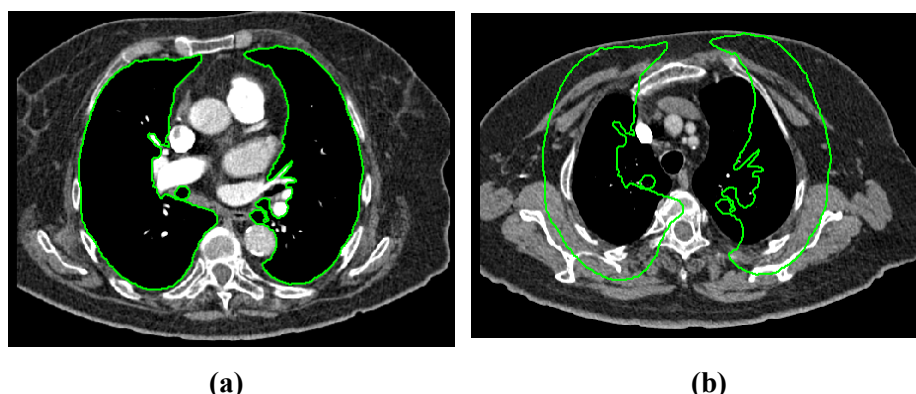

Figure 244 – Contour on the last image (a), Accepted nearest contour from the last image into the 1st image (b)
3. The nearest drawn contour is then automatically copied to the current image (see Figure 244).